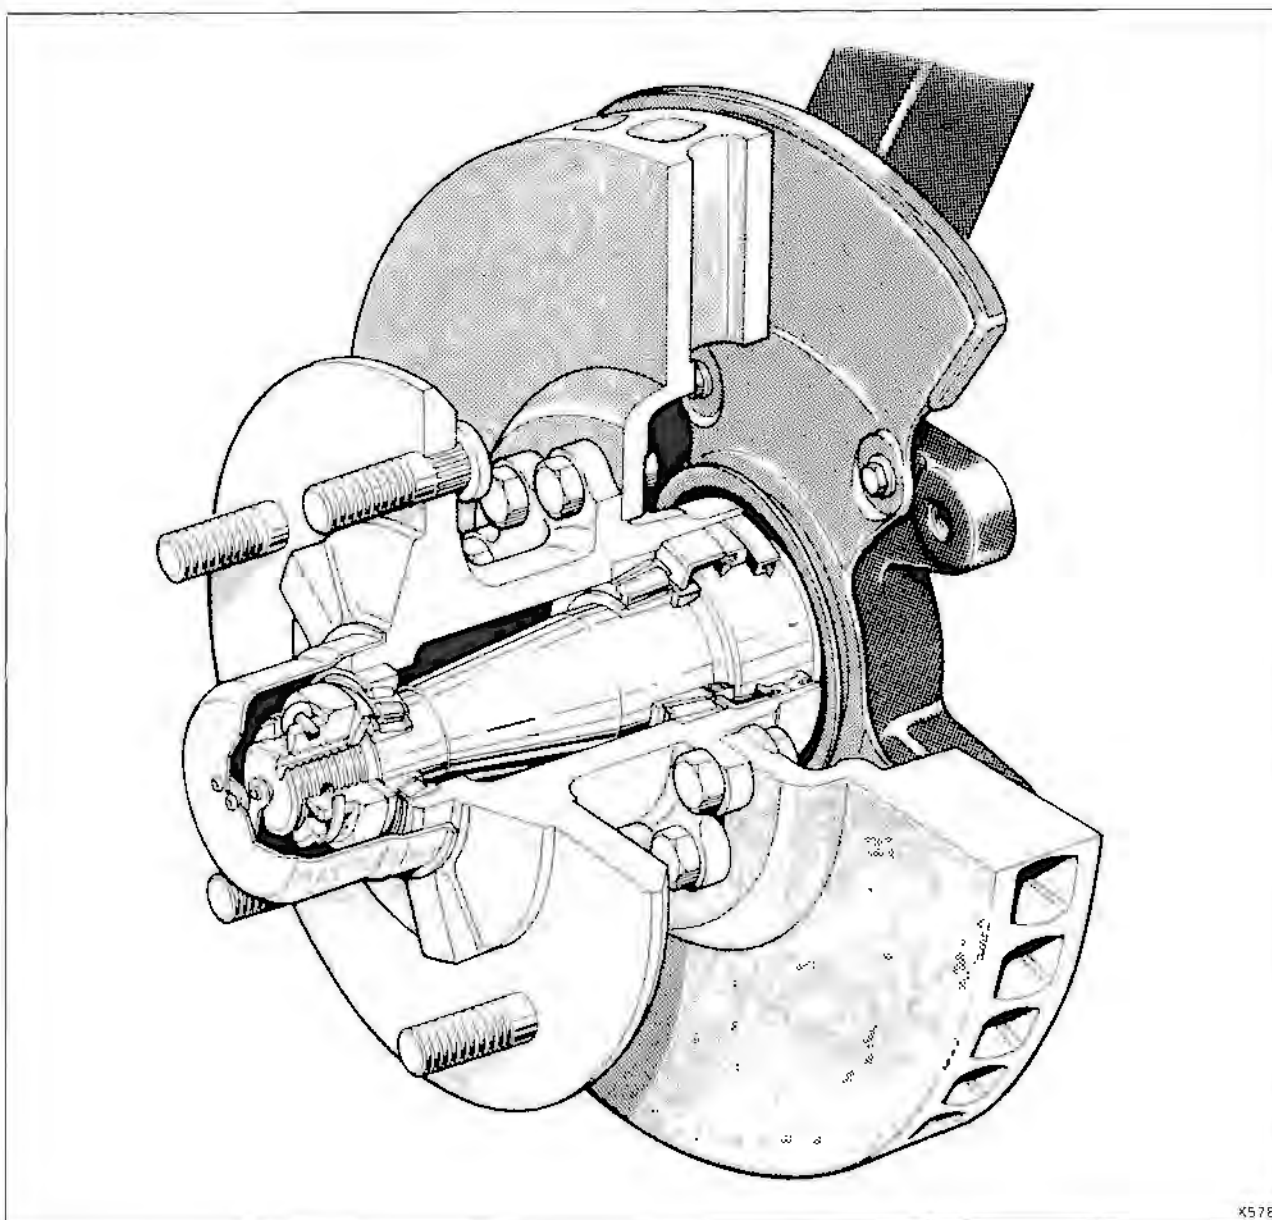

Fig. H6-1 Front hub assembly (Cars not fitted with anti-lock braking)
Front hub – To assemble (see figs. H6-1 and H6-2)
1. Fit the internally tapered distance piece onto the stub axle with the taper towards the yoke (see figs. H6-1 and H6-2).